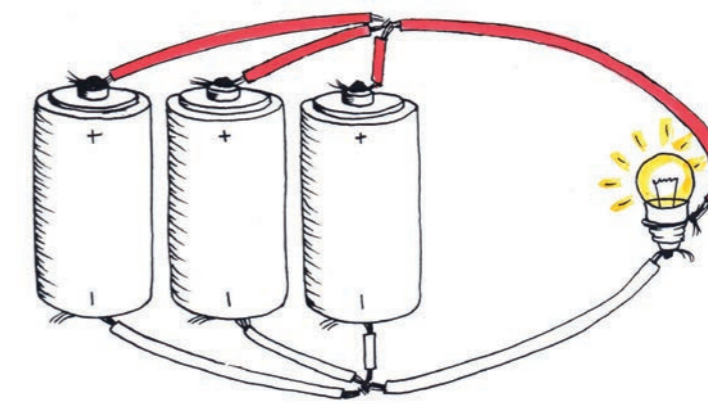
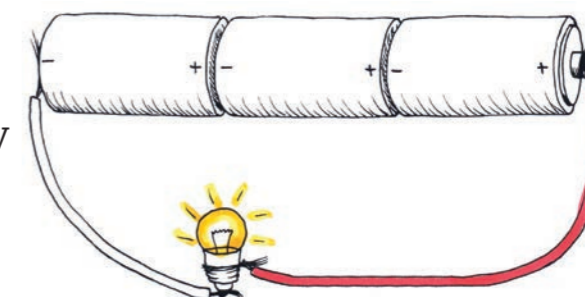

Figure 12: Cells in parallel
Figure 13
1. Compare the circuits in Figures 12 and 13. Each circuit has three cells and one light bulb, but the components are connected differently.
The light bulb in Figure 13 will glow the brightest, because the three cells in series give it 4,5 V, whereas the three cells in parallel give only 1,5 V to the light bulb.
The cells in Figure 13 will become “dead” or “flat” quicker, because they give their energy to the light bulb faster (at a greater rate) than the cells in parallel in Figure 12.
Therefore, the light bulb in Figure 12 will glow for the longest time.